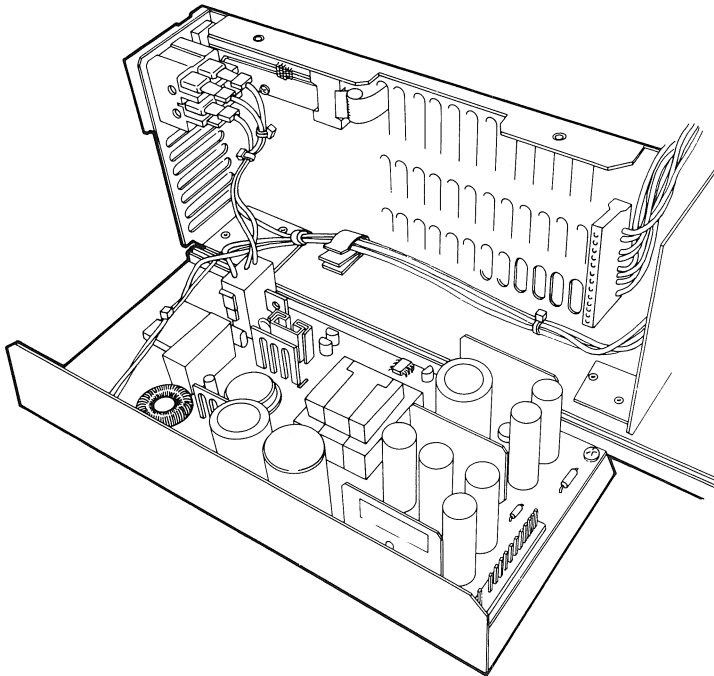

Figure 4-13 Power Supply, Component Side View
4. Disconnect the dc power connector located at the rear of the power supply (see Figure 4-13).
6. Disconnect the ac power connector located at the lower front of the power supply (see Figure 4-13).